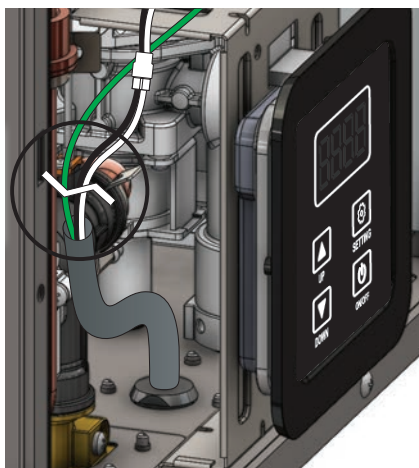

Figure 41 - System power cord cut location.
- 2 Locate the system power cord and cut the wires at the location shown in Figure 41.